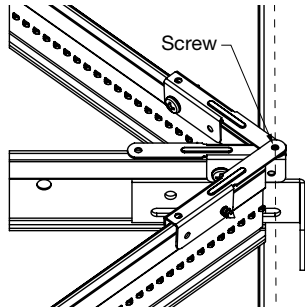

Fig 82
- Once the position has been verified, clamp the PAC to the cut XM Cross Tee and attach with one screw through the side of the clip and into the bulb (**Fig 82**)